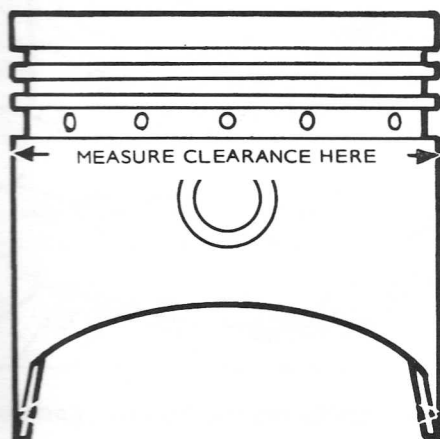

FIGURE 25. MEASURING PISTON CLEARANCE
- b. Measure the piston to cylinder clearance as shown in Figure 25 to be sure the total clearance follows specifications.